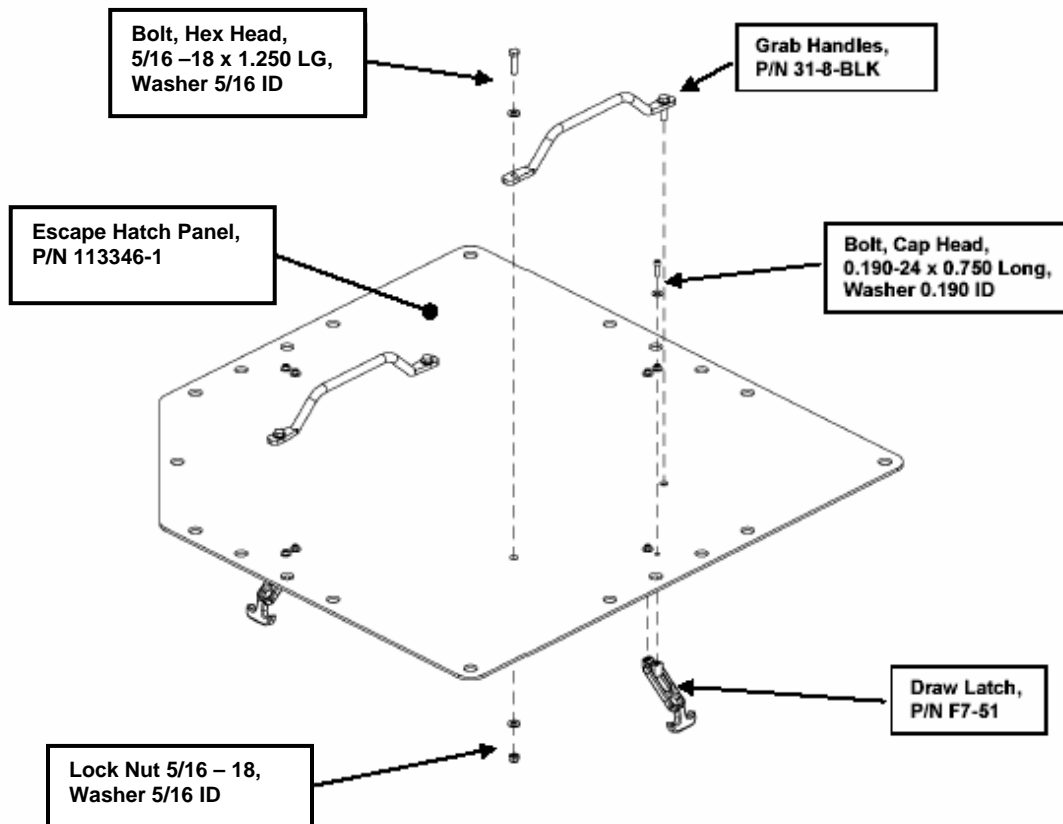

Figure 48A. Escape Hatch Handle and Draw Latch illustration.
- ae. Install two Handles onto the top of the Escape Hatch Panel (see Figure 48A) (P/N 113346-1) using two bolts (5/16 – 18 x 1.250 LG), four washers (5/16 ID), and two nuts (5/16 – 18) for each Handle.